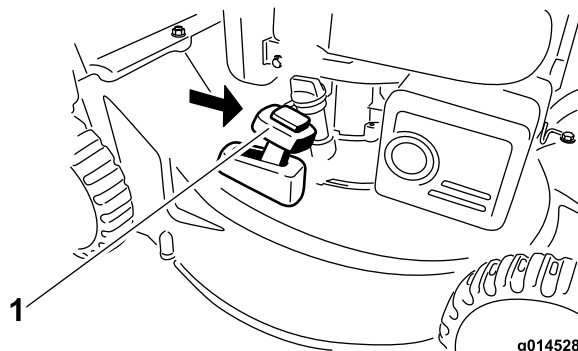

Figure 20
2. Install the grass bag; refer to Removing the Grass Bag \(page 12\) and move the bag-on-demand lever to the **bagging** mode (Figure 20).
Note: If the grass bag is on the machine, remove it before rear-discharging the clippings; refer to Removing the Grass Bag \(page 12\). The bag-on-demand lever should be in the **bagging** mode (Figure 20).